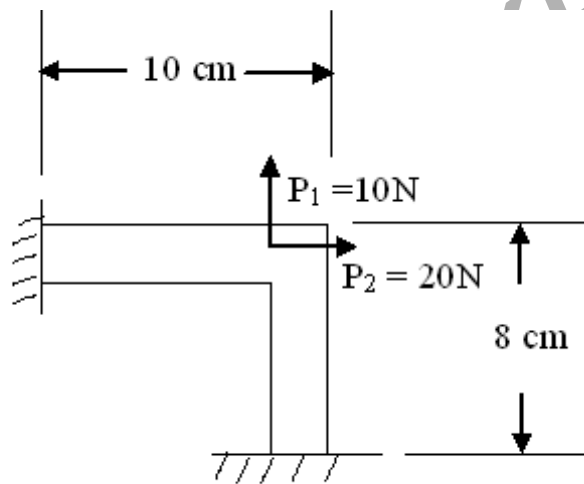

Figure 2
2. Give a detailed method of finding the stresses in the frame shown in the figure 2